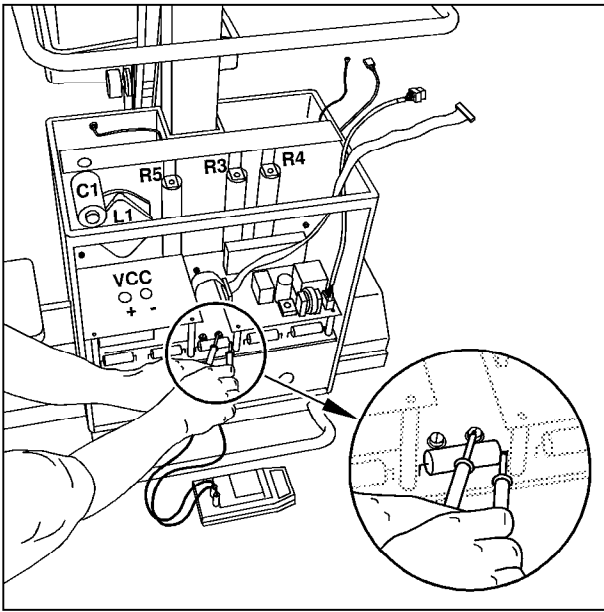

Fig. 9
- **Always measure the actual voltage present with the DVM at test points -VCC and +VCC on the D960 Inverter board or (more accessible) on the D 970 capacitor board at the + connection point of capacitor C3 and on the right side of fuse F3 (refer to Fig.9).**